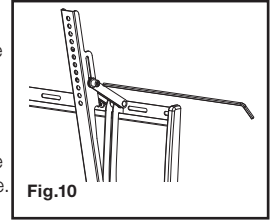

Fig.10
1. To change the tilt angle of your display, hold the display firmly in place and loosen the tilt mechanisms using the long Allen key (J) from the hardware kit (see Fig. 10). Move your display to the desired position, and then re-tighten the tilt mechanisms. If your display is in the non-tilt position, you will need to push up gently on the display before you can move it. **Do not release the display until both tilt mechanisms are firmly tightened.**